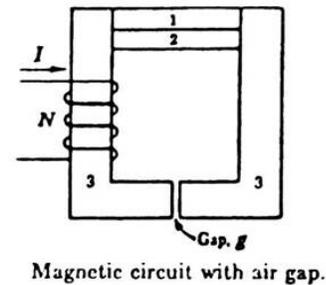

Figure B.1
B.1. Figure B.1 shows a magnetic circuit whose parameters are specified in the table below. For a coil of 800 turns carrying 1.5 amp, determine the flux densities in each material, the inductance of the coil, the energy storage of the circuit, and the force between the faces of the air gap. Leakage flux and fringing at the air gap will be neglected.